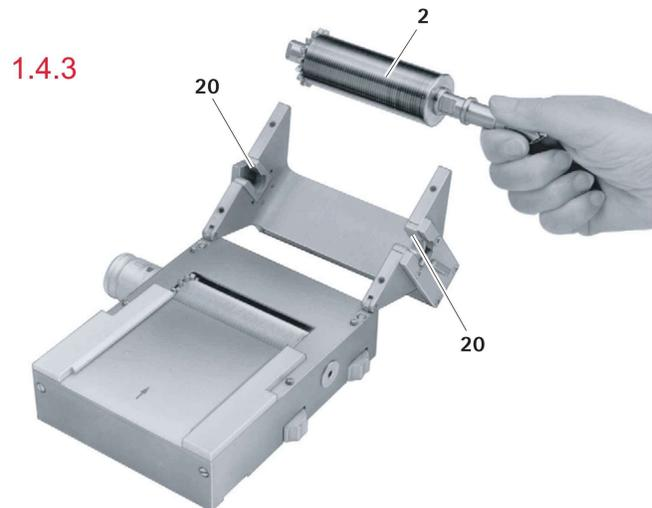

Fig. 4
- ▶ Turn cutting cylinder 2 while pulling it out of bearings 20, see Fig. 4. This completes the dismounting of cutting cylinder 2.
- ▶ Insert the cutting cylinder 2 into the two bearings 20, see Fig. 4.